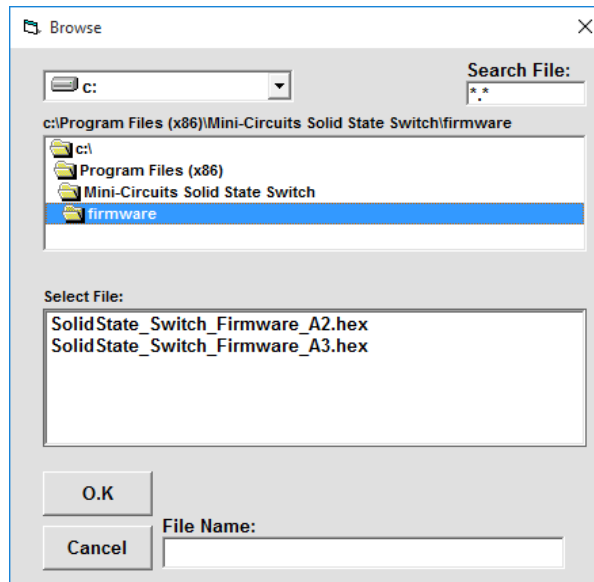

Figure 3.3.5: Firmware - Browse Window
3.3.5 A browse window will open to the firmware directory under the path you selected when installing the GUI program (See **Fig. 3.3.5**). Navigate to where you saved your firmware file, Select the firmware version you wish to install and click 'O.K'.